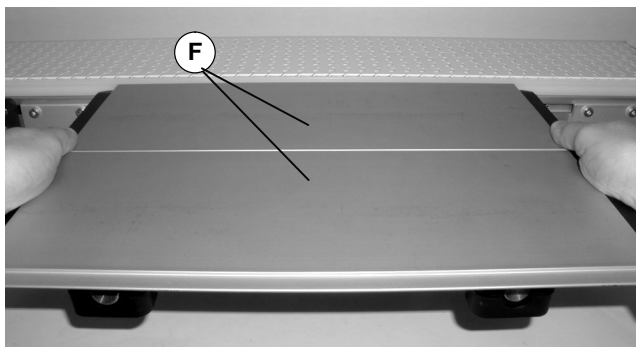

Figure 21
5. Push table (F of Figure 21) into desired position, see Note on page 7 for examples.